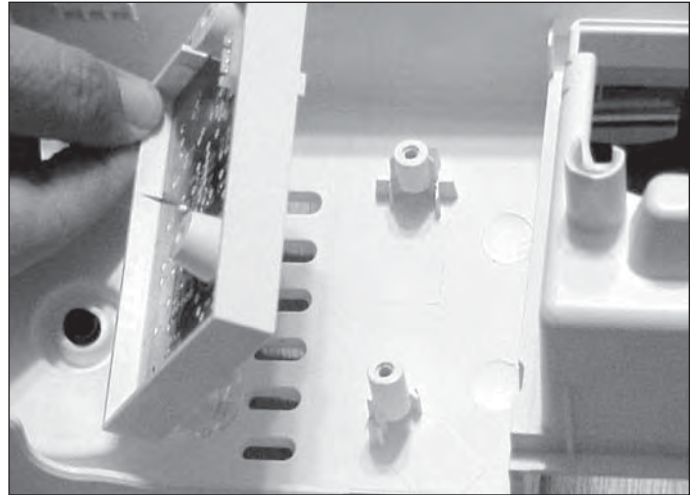

Figure 4-26.
2. With the electronic control removed the interface board will lift out. (See Figure 4-26)